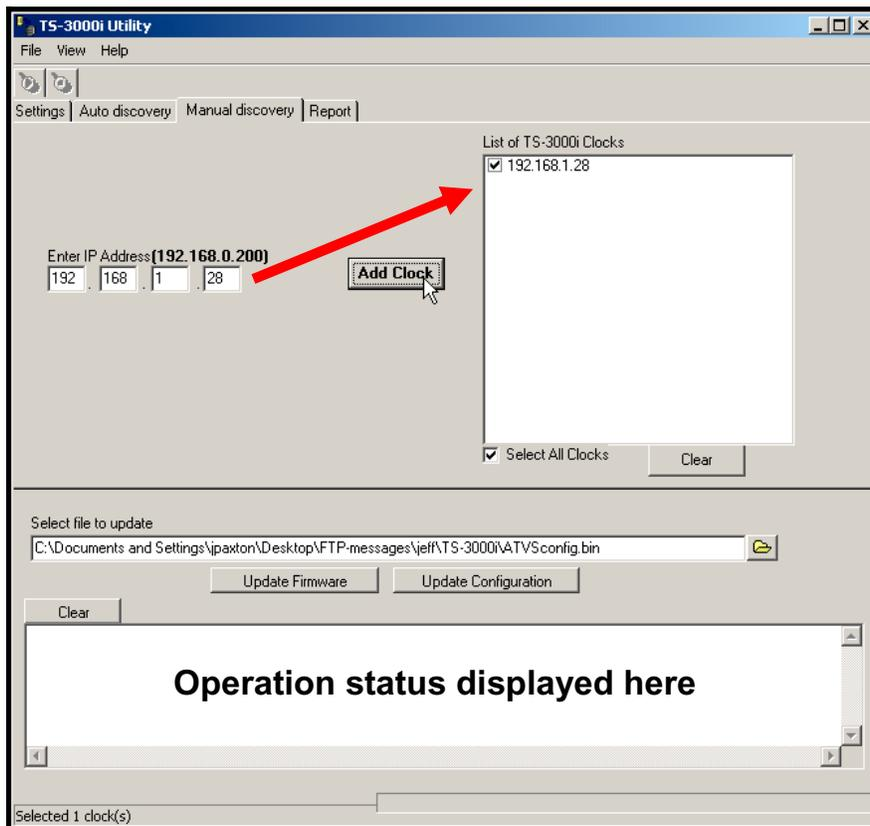

Figure 5-12: Manual Discovery Download
Step 1. With the **Advanced settings** open, click on the **Manual discovery** tab, enter the IP Address for the desired clock, and press the  button to add the clock to the list of TS-3000i clocks (see *Figure 5-12*). Use this same procedure to manually add other TS-3000i clocks to the list.